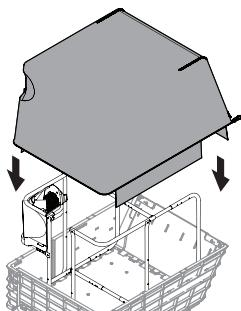

Figure 13
5. Drape mesh cover (764-05215) over frame assembly, aligning bag vent and mesh cover opening. See Figure 13.